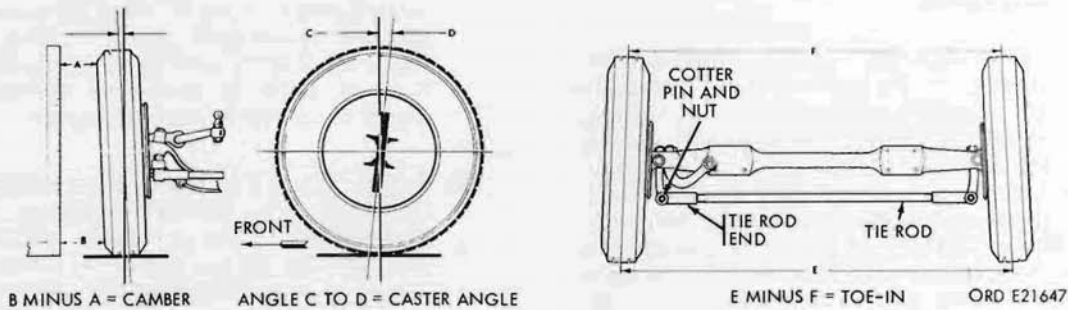

Figure 199. Front wheel alignment
- (1) Caster (fig. 199). Front axle caster (C to D) is inclination of centerline through upper and lower steering knuckle sleeves toward rear of truck.
- (2) Camber (fig. 199). Front wheel camber (B minus A) is outward inclination of tops of wheels, that is, wheels are farther apart at the top than at the bottom. There is no adjustment for camber; however, loose wheel bearings, worn knuckle sleeve bearings, bent steering knuckle, or bent axle housing will affect camber.
- (3) Turning angle. Front wheel turning angle is maximum angle through which wheels may be turned from STRAIGHT-AHEAD position. This angle is limited by turning stops that are welded after adjustment. Failure of steering knuckle boots may be caused by incorrect turning angle. Correct angle is from 28° to 29° , 28° being optimum angle. If angle exceeds 29° , refer to direct support maintenance unit.
- (4) Toe-in (fig. 199). Front wheel toe-in (E minus F) is the amount by which wheels are closer together at the front than at the rear, with wheels in a STRAIGHT-AHEAD position. Camber causes both wheels to have tendency to turn outward from truck. Toe-in counteracts this tendency and causes wheels to roll straight ahead with no scuffing action.
c. Tie Rod Adjustment. Remove tack welds (if present) from tie rod ends, using care not to damage threads. Loosen the two nuts at the end of clamps on each end of tie rod (fig. 199). Shorten or lengthen tie rod by turning the tie rod with the pipe wrench. After adjusting, again check the toe-in. When adjustment is correct, tighten the end clamp bolts, but do not reweld.
- (1) Removal. Place truck on level surface and apply handbrake. Raise front axle enough to take weight of truck off front wheels. Remove cotter pin and nut from the tie rod end (fig. 199), one at each end of the tie rod.
- (6) Remove axle. Remove the nut, grommet retainer, and the grommet from the lower end of the shock absorbers. Remove the nuts and lockwashers from U-bolts, and remove both the clamp plates (fig. 199), U-bolts, and saddles. Lower the jack until the axle clears. Remove the spring seats from the axle. Pull the axle from under the truck, making sure the hydraulic brake lines are not damaged. Remove the second grommet and retainer from the shock absorbers. Remove the axle air breather valve from the axle.
- (1) Position axle. Clean the breather valve and install on the axle. Place the axle on a dolly jack and move into position under truck. Place the spring seats on the axle. Raise the axle in position against the springs, being certain the spring center bolt heads enter alignment holes in the axle spring seats. Place saddles on the springs, and install U-bolts (fig. 199). Install the clamp plates, and install lockwashers and hex-nuts on the U-bolts. Tighten to 170 to 180 pound-feet torque. Install one retainer and mounting grommet in place on each stud at the lower end of the shock absorbers. Collapse the absorbers and insert the studs in the clamp plates. Install the second grommet and retainer on each stud end and secure with two hex-nuts.
- (2) Connect brake lines. Connect the hydraulic brake lines at the wheel cylinders. Install 85,000-psi yield strength hex-head screws and lockwashers connecting brake-line brackets to boot guards and axle housing.
- (3) Connect propeller shaft. Connect propeller shaft at front end.
- (4) Connect drag link. Refer to paragraph 201 for instructions on installing and adjusting the drag link at the axle steering arm.
- (5) Install wheels. Install wheels and tires on hubs, install the wheel stud nuts, and tighten to 400 to 450 pound-feet torque.
- (6) Remove blocks and dolly jack. Raise front of truck with dolly jack, and remove the blocks from under the frame side rails. Lower the jack and withdraw from under the truck. Check all the nuts on spring mounting bolts for tightness with full weight of truck resting on springs.
- (7) Bleed brakes. Bleed the front wheel brakes (par. 177).
- (8) Lubricate. Check lubrication of complete axle and propeller shaft universal joints, as instructed in LO 9-2320-209-12.
- (9) Record of replacement. Make a record of the replacement on DA Form 2408-5.